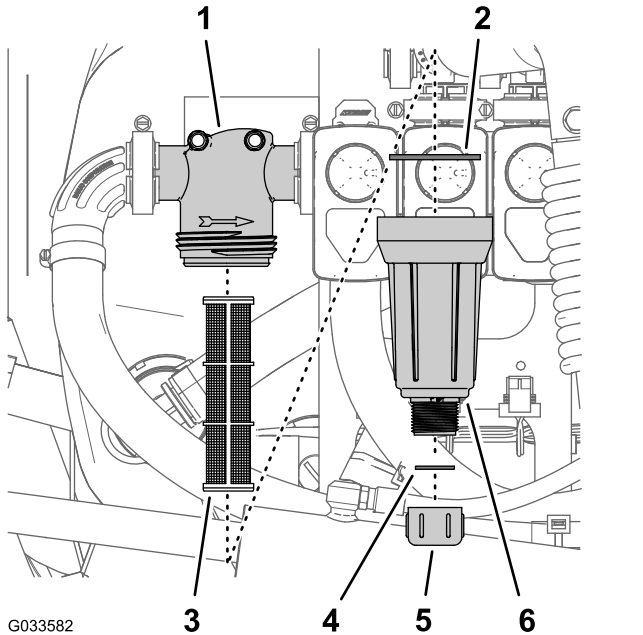

Figure 92
2. Align a drain pan under the pressure filter (Figure 92).
3. Rotate the drain cap counterclockwise and remove it from the bowl of the pressure filter (Figure 92).
4. Rotate the bowl counterclockwise and remove it from the filter head (Figure 92).
5. Remove the old pressure filter element (Figure 92).
6. Check the gasket for the drain plug (located inside the bowl) and the gasket for bowl (located inside the filter head) for damage and wear (Figure 92).
7. Install the new pressure filter element into the filter head (Figure 92).
8. Install the bowl onto the filter head, and tighten by hand (Figure 92).
9. Assemble the drain cap onto the fitting at the bottom of the bowl, and tighten the cap by hand (Figure 92).